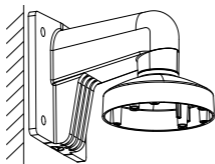

Figure 2-13 Install the Pendant Cap
1. Fix the pendant cap bracket on the wall, as shown in Figure 2-13.